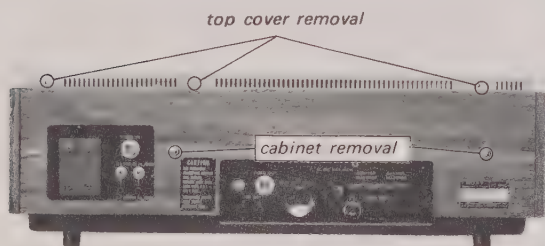

Fig. 4-1. Rear view
1. Remove the three screws at the rear-top edge of the top cover. See Fig. 4-1. A 2.5 mm hex key is needed for this purpose.
2. Remove the two screws at the rear of the cabinet as shown in Fig. 4-1.